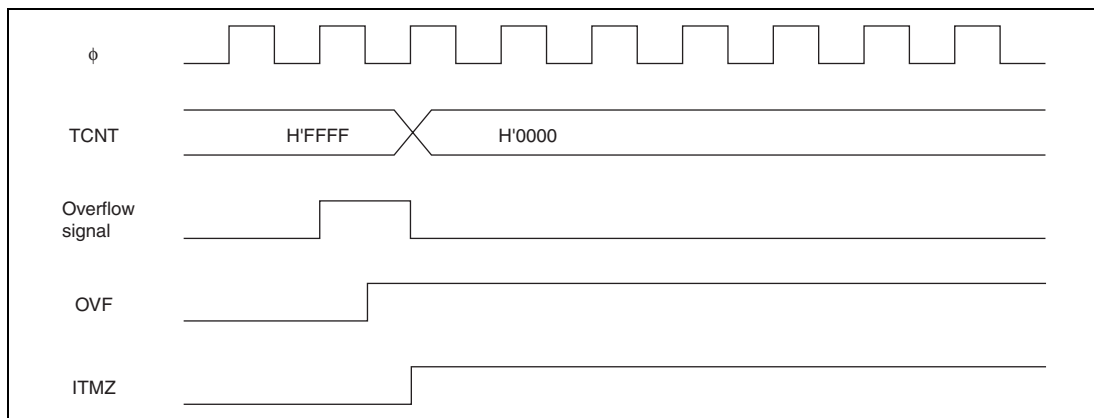

Figure 13.50 OVF Flag Set Timing
3. Overflow Flag (OVF) Set Timing: The overflow flag is set to 1 when the TCNT overflows. Figure 13.50 shows the timing.